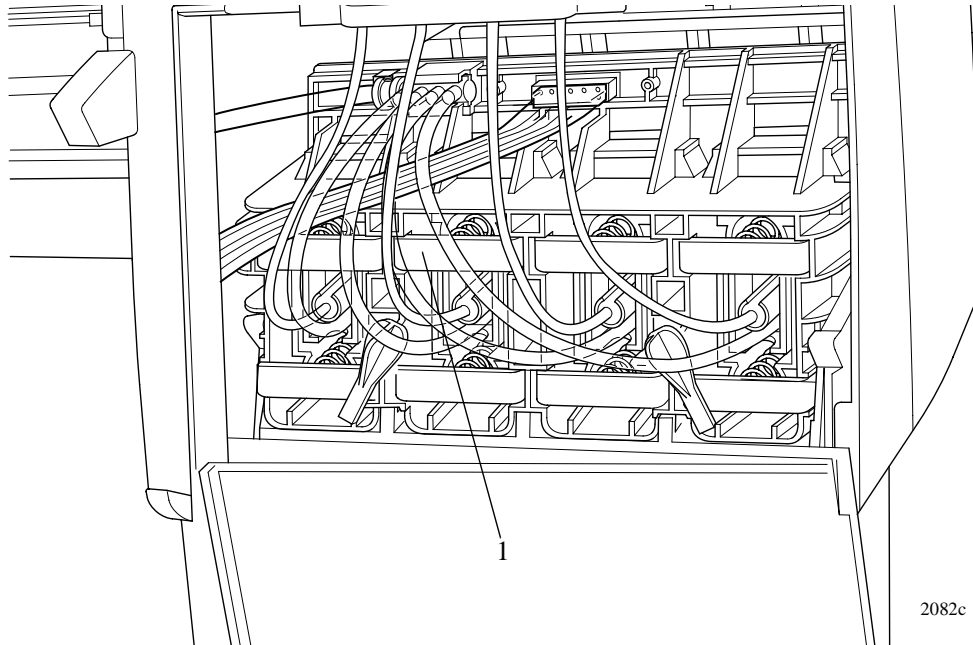

Figure 11: Ink Cartridge Tube Connector (pulled back)
- Slide the ink cartridge tube connector assembly towards you (refer to Figure 11).